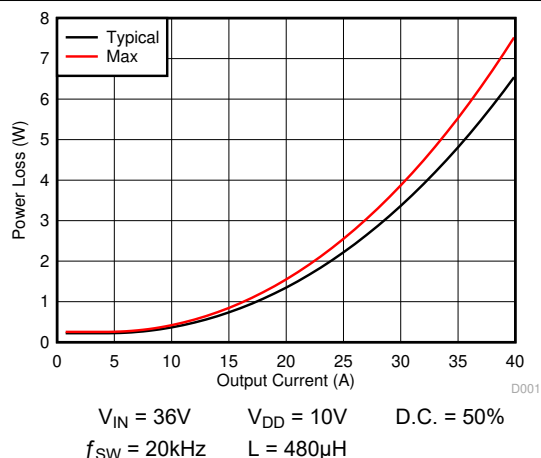

Figure 4-1. Power Loss vs Output Current
The typical power block system characteristic curves (Figure 4-1 through Figure 4-6) are based on measurements made on a PCB design with dimensions of 4in (W) × 3.5in (L) × 0.062in (H) and 6 copper layers of 2oz copper thickness. See Section 5 section for detailed explanation. $T_J = 125^{\circ}\text{C}$, unless stated otherwise.
Figure 4-1 plots the CSD88599Q5DC power loss as a function of load current. The measured power loss includes both input conversion loss and gate drive loss.
In the example below, we show how to achieve this for the temperatures $T_C = 124^\circ\text{C}$ and $T_B = 120^\circ\text{C}$. First we draw from 40 A on the Y-axis at 124°C to 120°C on the X-axis. Then, we draw a line up from where this line crosses the T_X line to see that this line intercepts the SOA at 34A. Thus we can assume if we are measuring a PCB temperature of 124°C , and a top case temperature of 120°C , the power block can handle 34A RMS, at the normalized conditions. At conditions that differ from those in Figure 4-1, the user may be required to make an SOA temperature adjustment on the T_X line, as shown in the next section.